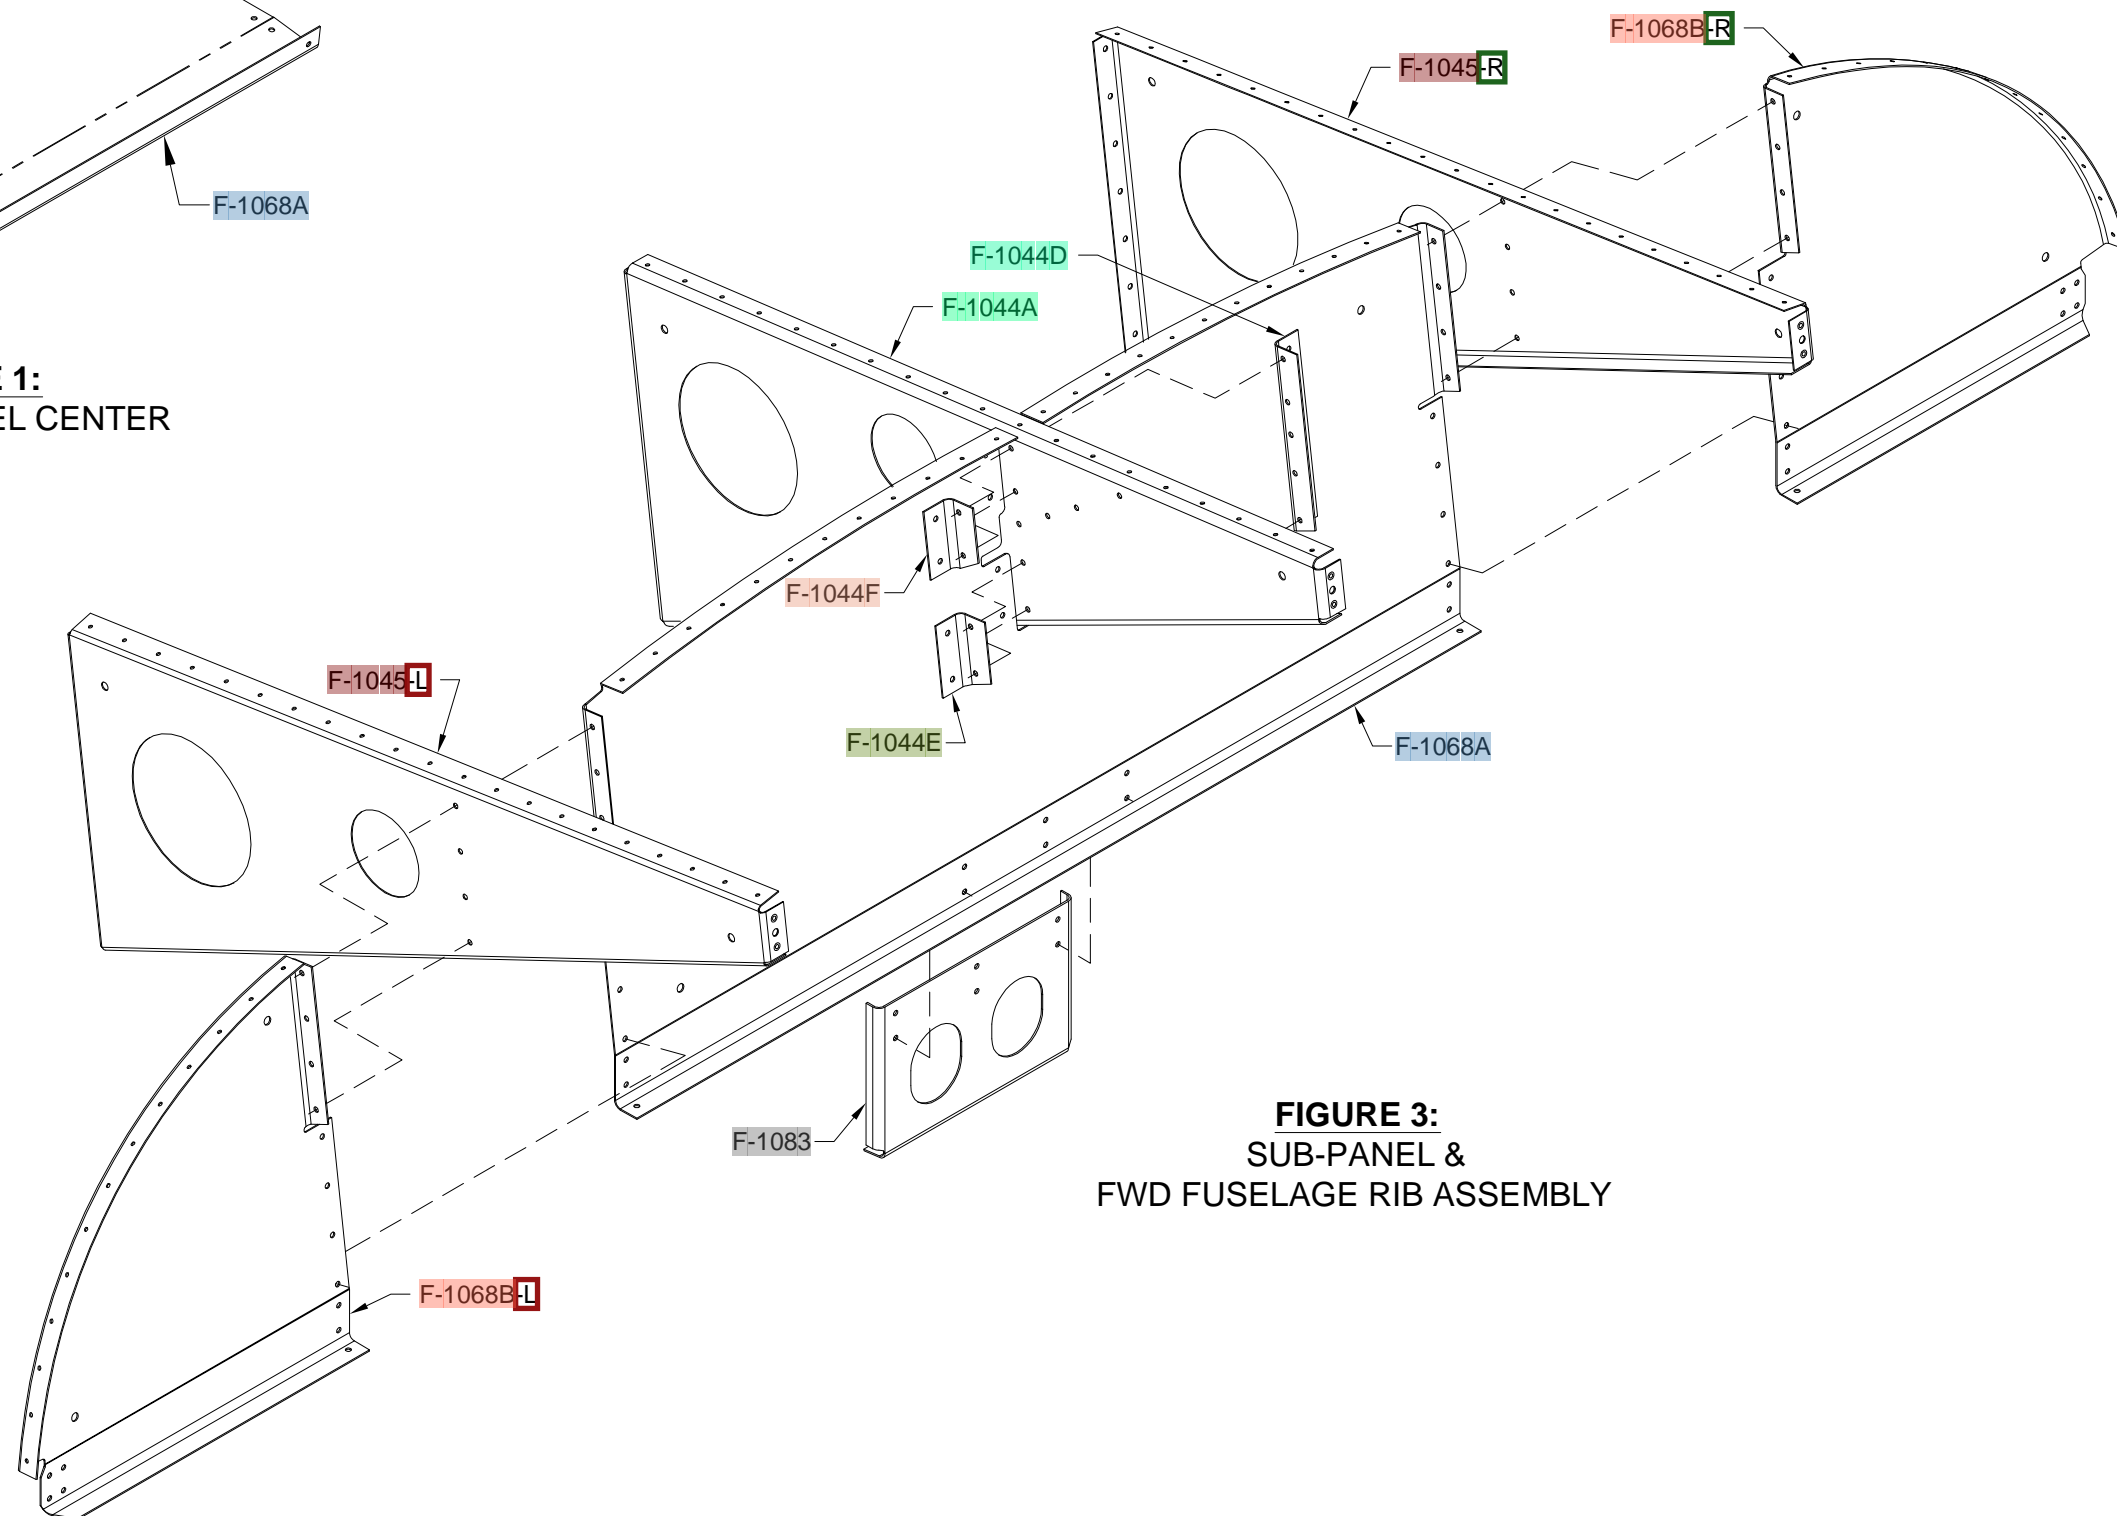

**FIGURE 2:** BEND SUB PANEL SIDE
Dimple the nutplate attach holes and the rivet holes in the forward flange of the fwd fuselage rib. See Figure 2. Dimple the nutplates that will be attached to the fwd fuselage rib.
Rivet nutplates to the fwd fuselage rib as shown in Figure 2.
Step 2: Using the edge of a table or other straight edge, bend the lower portions of the F-1068B-L and F-1068B-R Sub Panel Sides as shown in Figure 2.